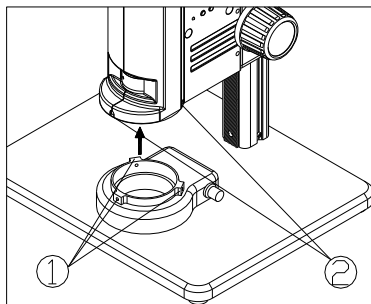

Fig. 2
1) Move the LED ring light close to the microscope body according to the arrowhead direction, align the three screw holes① with the thread groove②, and lock the screw with a M4 inner hexagon spanner (side length 2mm). (See Fig. 2).